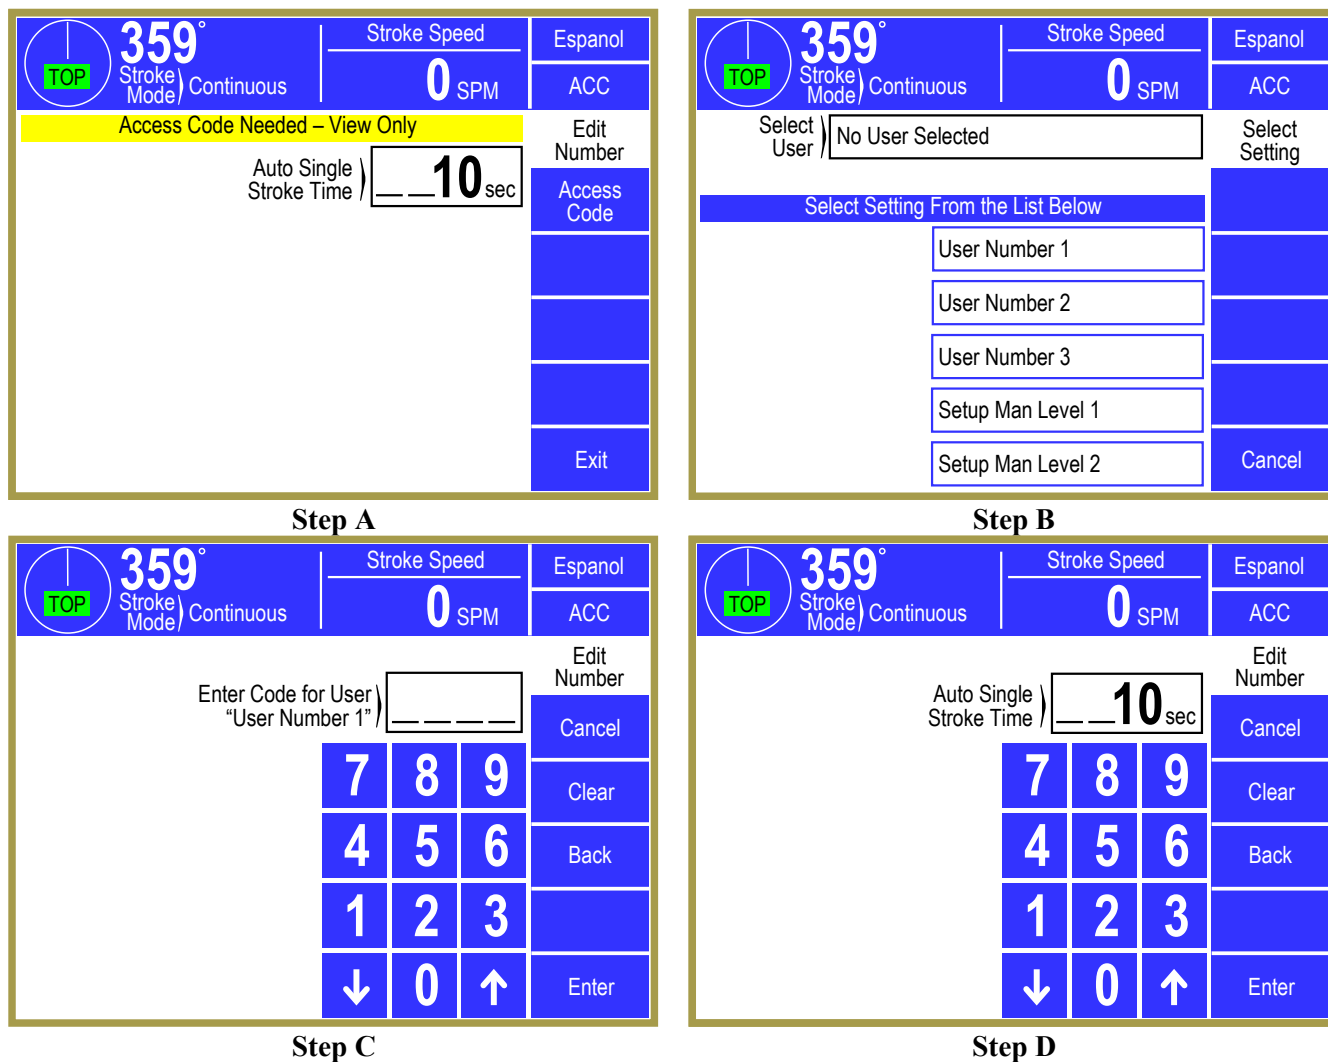

Figure 10: Example Password Entry Sequence
Figure 10 displays an example password entry sequence. This example shows the steps necessary to change a numeric value but is typical for password entry for all restricted items.
**Step A:** Select the restricted item. In the example shown in “Step A” of Figure 10 the restricted item is the Auto Single Stroke Time. Once the parameter is selected, if restricted the display will prompt that an access code is required. The user should press the **Access Code** key.
**Step B:** A list of users that have access to this restricted item will appear. In “Step B” of Figure 10, 5 of the 16 possible users have access to this restricted parameter. The system may have several more users, but the 5 users listed on the screen are the only users that have access to Auto Single Stroke time. The user must select his user name (even if there is only one user name displayed).
**Step C:** The display will show the selected user name and request the user password as shown in “Step C” of Figure 10. The user must enter the correct password and then press the **Enter** key.